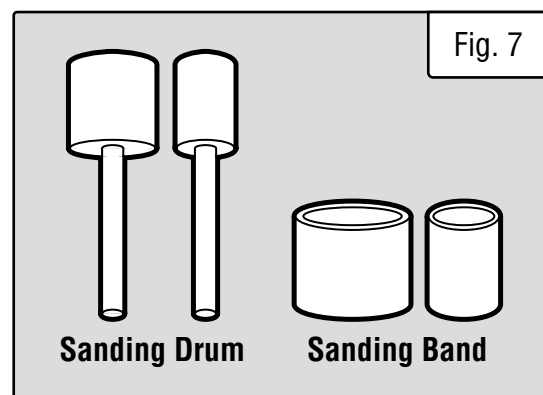

Fig. 7
1. Slide the rotary tool holder (Fig. 3 - 1) onto the holder bracket (Fig. 3 - 2) on the back of the rotary station as shown in Fig. 7.
Loosen the screw on the top of the sanding drum using the end of the wrench to allow the drum to contract. Slide the sanding band onto the sanding drum (Fig. 7). Fully tighten the screw to expand the sanding drum and hold the sanding band in place. Make sure the sanding drum is sufficiently expanded to secure the band during use. If sanding band is loose on the drum, it may fly off during operation and cause injuries.